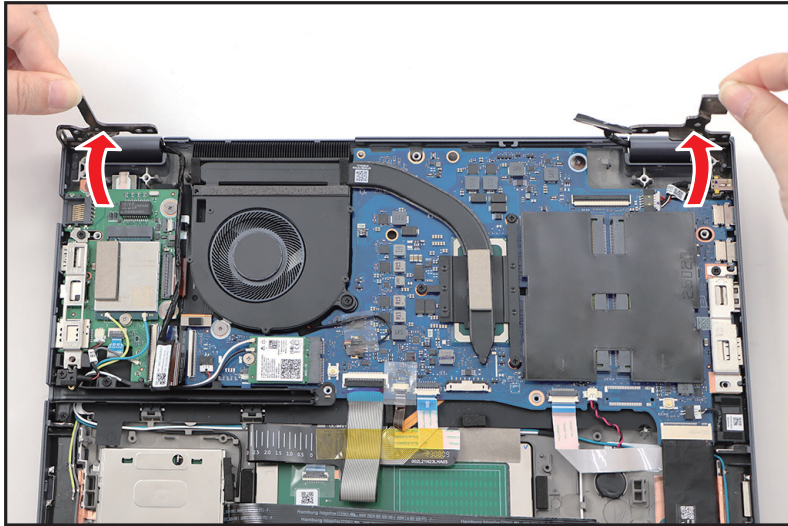

Figure 1-24. LCD Module Removal
5. Close the top assembly and lift both LCD hinges until they are fully extended (Figure 1-24).